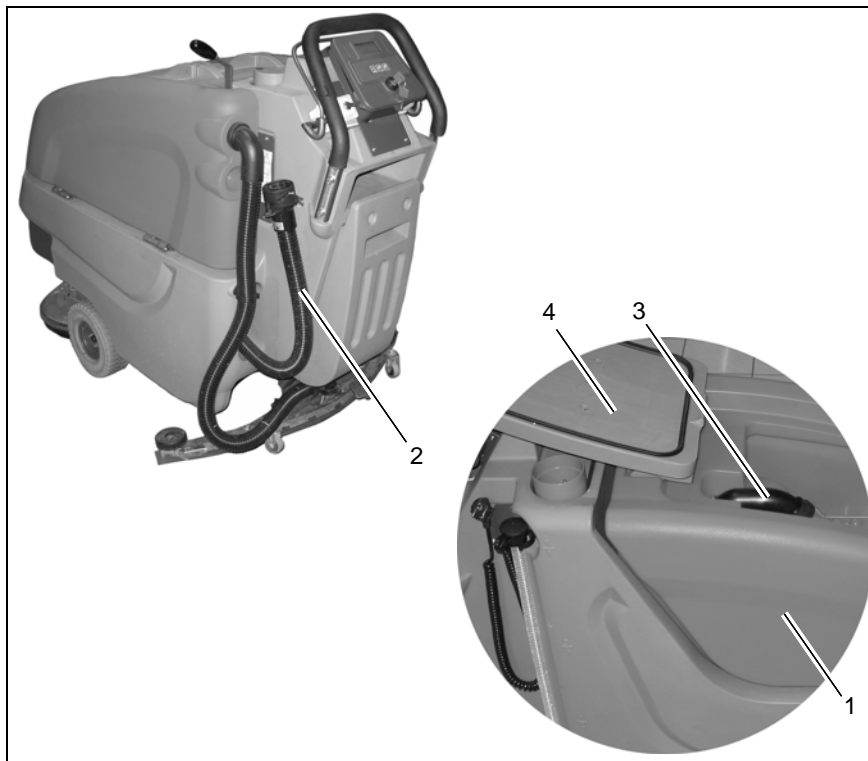

Abb.9
Clean recovery tank (Abb. 9/1) at daily intervals, as required or upon acoustic signal (increased suction turbine speed).
4. Take drain hose (Abb. 9/2) from holder and empty recovery tank completely.
Clean recovery tank (Abb. 9/1) at daily intervals or as required.
2. Open tank lid (Abb. 9/4) of the recovery tank.
3. Take drain hose (Abb. 9/2) from holder and empty recovery tank completely.
Check suction filter (Abb. 9/3) for function at daily intervals and clean if required. The suction filter is clipped and can be easily removed.